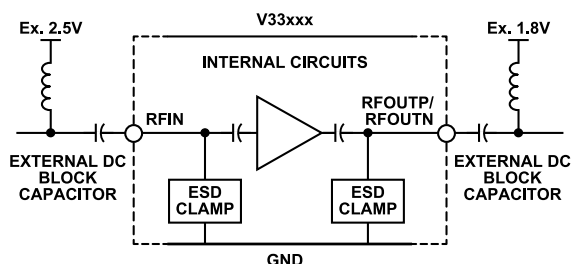

Figure 58. Simplified RF Input and Output Port Structure
The ESD clamps are located right after input ports and before the output port (see Figure 58). When a DC voltage greater than or equal to 1.0 V is applied as common-mode, there is a risk of latching the silicon controlled rectifier (SCR) clamps in the ESD protection block with a single spike. Even with a DC voltage less than 1 V, intermodulation (IM) performance of the part may be degraded. An external DC block capacitor for AC-coupled is always recommended.